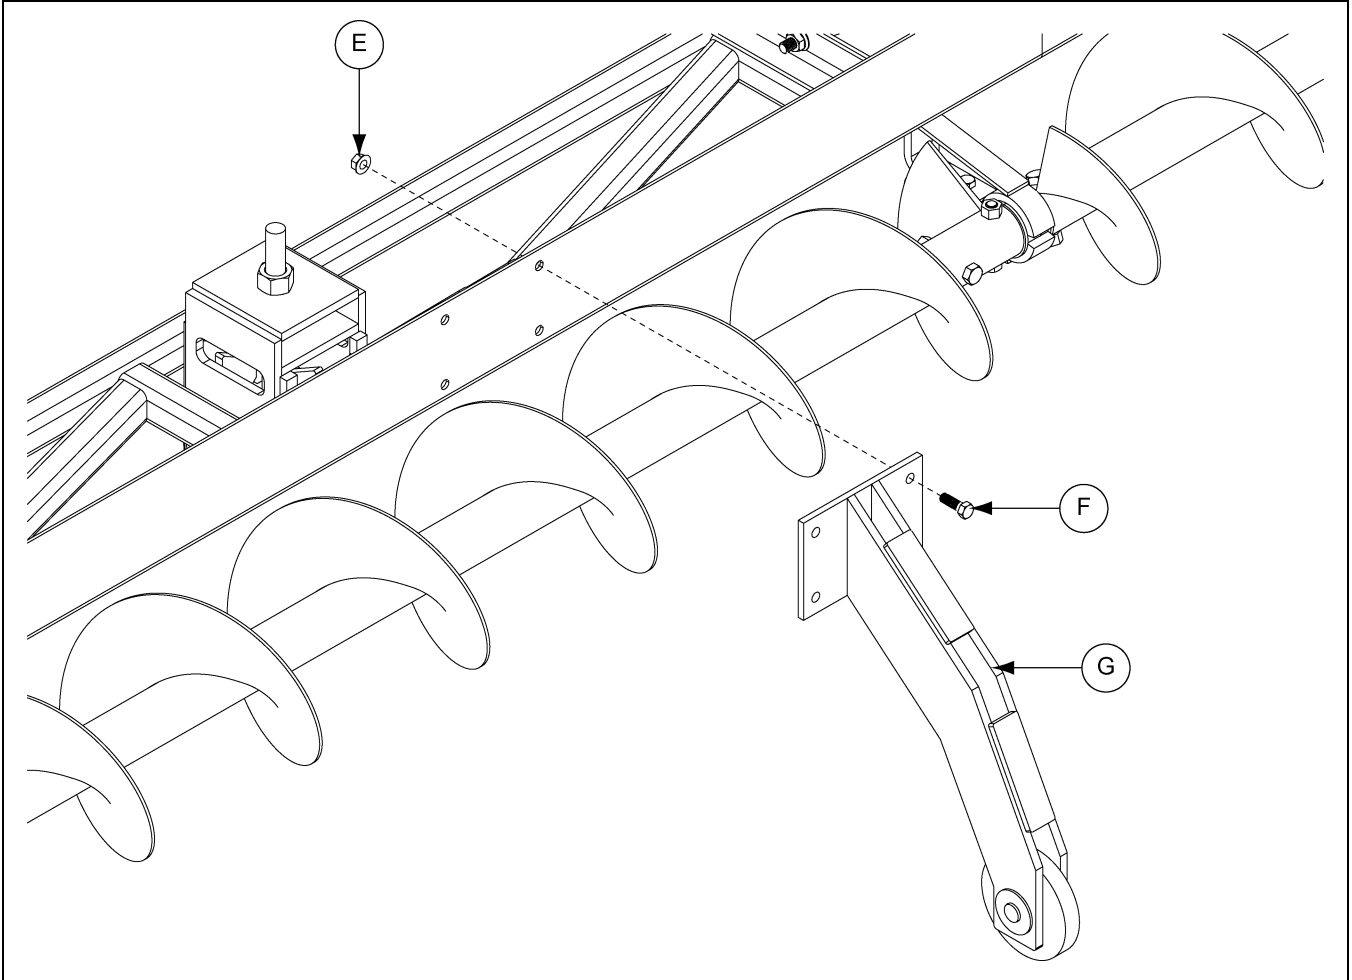

Figure 4AS
2. Install all front wheel struts (G) using hex bolts (F) and flange nuts (E). (See Figure 4AS.)